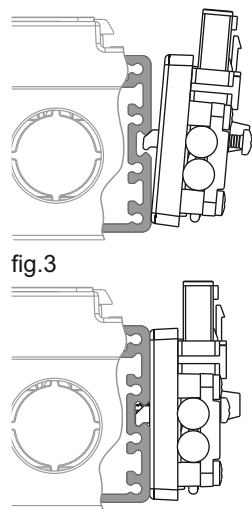

fig.3
- Clip the Auxiliary Adaptor Unit into its intended position alongside the connection unit (fig.3).